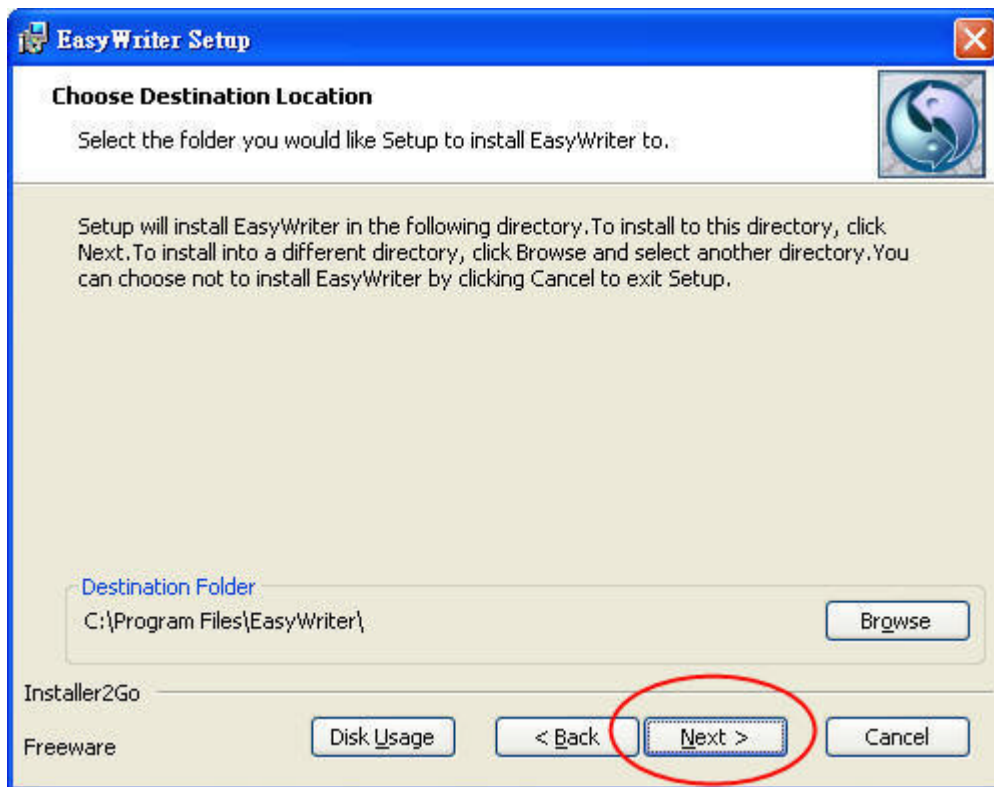

Fig 1.2
1.4 Keep default setting or press “ Change “ button for selecting the path that you want , and then press “Next “ button to continue , see Fig 1.2